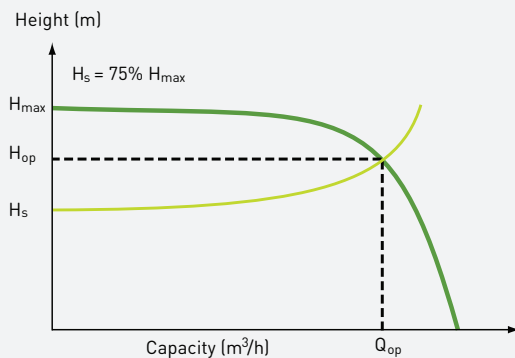

Figure 2: Hydraulic system with high static head
- In a high static head system most of the energy is used elevating the liquid to the desired head or height (Figure 2). This type of system is also referred to as static head dominant.